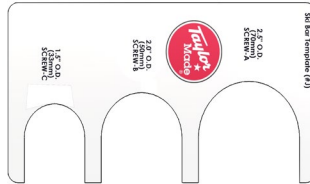

Fig.1
2. Use the enclosed cardboard template (Fig.1) to measure the outer diameter of the ski bar and to determine the correct machine screw length.